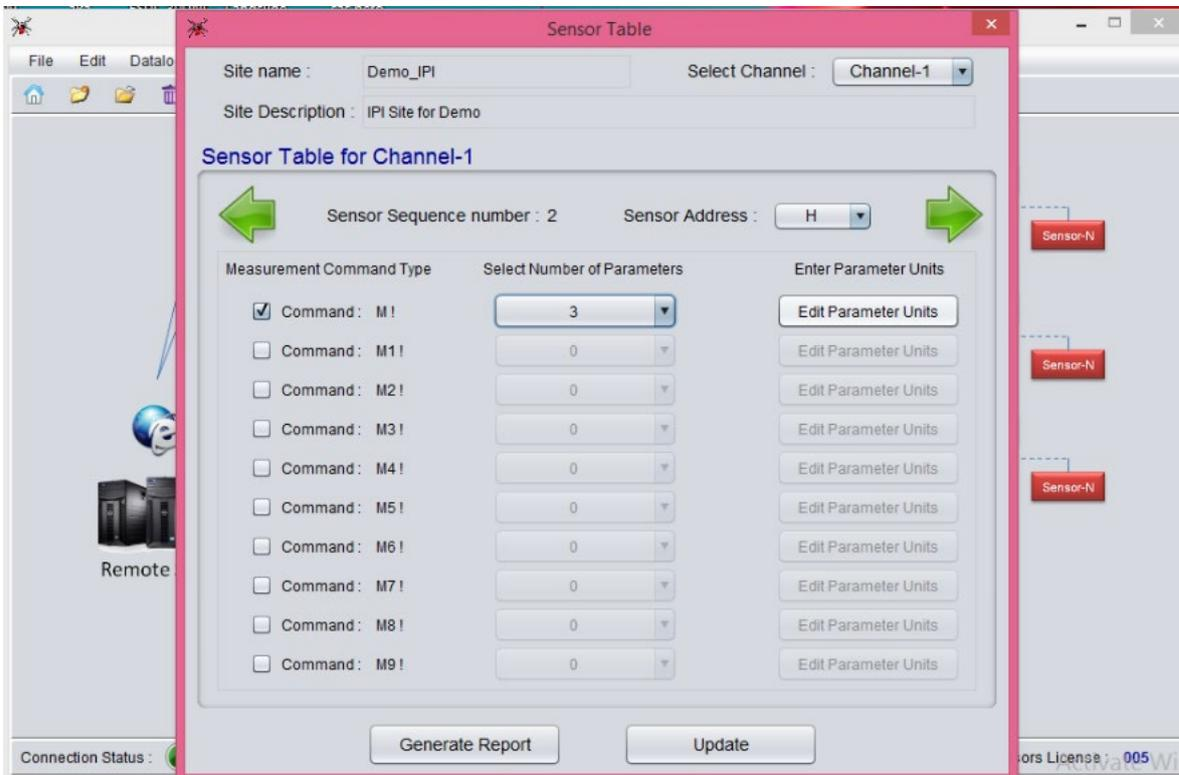

Figure 7-19 Selecting next sensor to be programmed in Sensor Table window
- Click  (figure 7-19) to define the parameters of next sensor connected and repeat the steps mentioned in Point no. 13 & 14 and so on. After defining parameters for all the sensors connected to the Datalogger, click "Update" button.